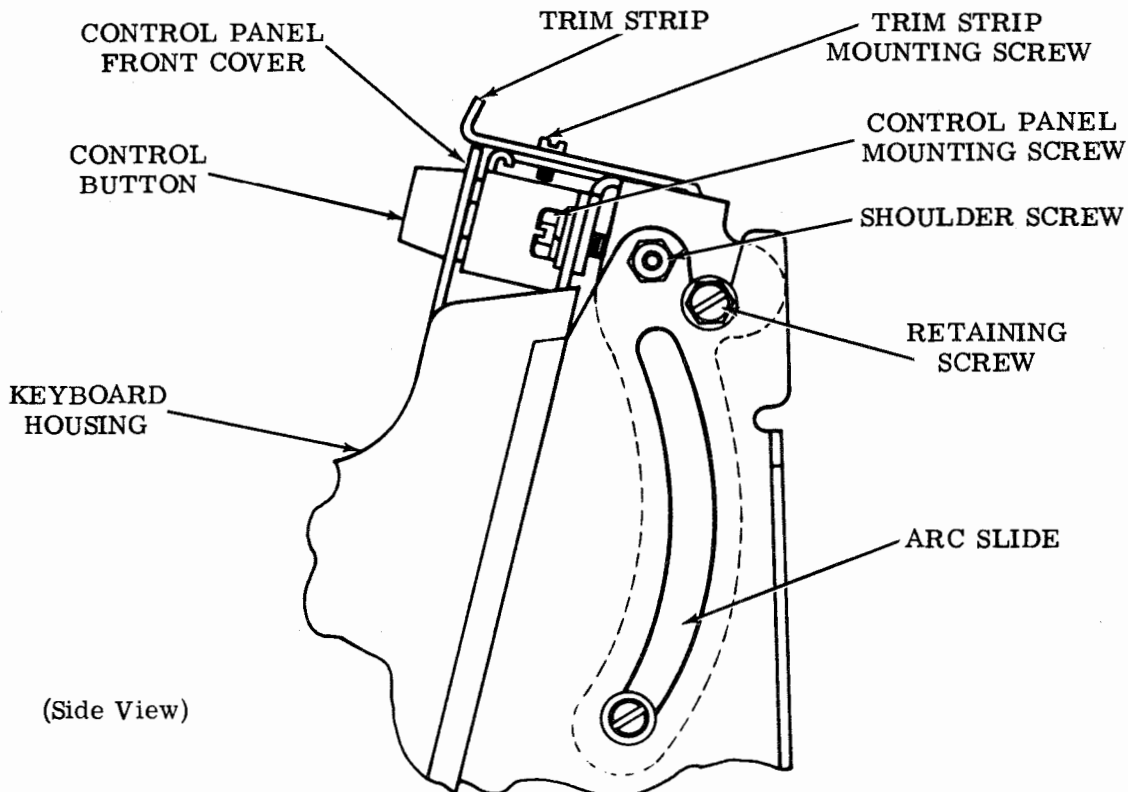

Figure 7 - Control Panel
2.06 Open the cover by depressing the two cover latches (one on each side) and tilting the cover upward. Loosen the retaining screws on each side of the control panel and tilt the panel forward. See Figure 7. Avoid removing the cover from the console; if necessary, however, the cover may be removed from the console by the following procedure:
4.11 Paper Advance and Local Return: With the control panel in its normal position and the typing unit secured to the base, loosen the PAPER ADVANCE and LOCAL RETURN bail eccentric screw locknuts friction tight. Rotate the eccentric until the gap between the paper advance bail, local return bail (on the control panel), and the levers on the typing unit is 0.060 inch minimum (Figure 7). Tighten both nuts. Move the print hammer carriage to the right and check local return operation. The paper advance operation must be checked under power.